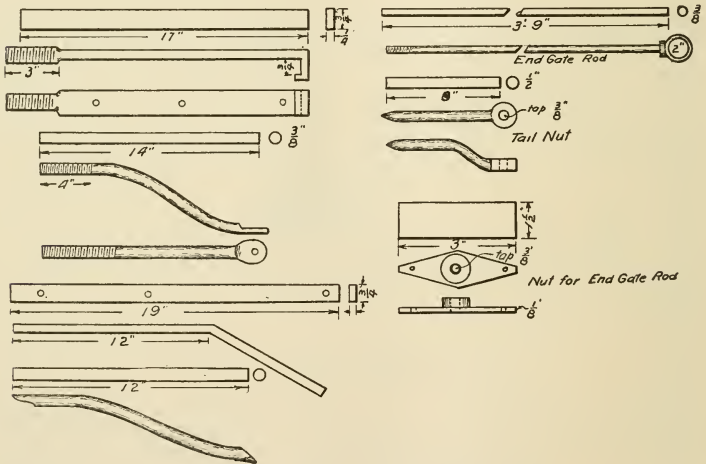

FIG. 216.—IRONS FOR WAGON BOX.
1. Each of the 8 strips used to fasten the crosspieces on to the side boards, is rounded at one end for a distance of 3''; and is made $\frac{3}{8}$ '' in diameter. This rounded end is threaded for a nut and the other end is bent to fit over the top edge of the side boards (Fig. 216).
4. The two brackets for the foot rest are made of $\frac{3}{8}$ " round iron 12" long, bent in the shape shown in Fig. 216, flattened at the ends, and punched for the bolts.